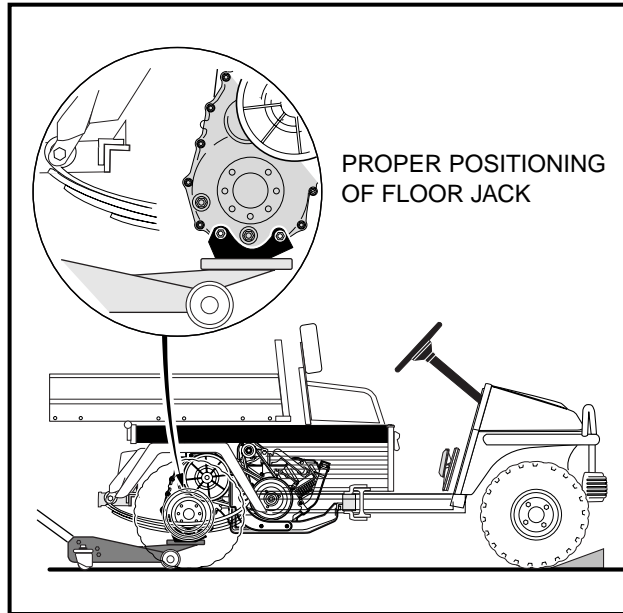
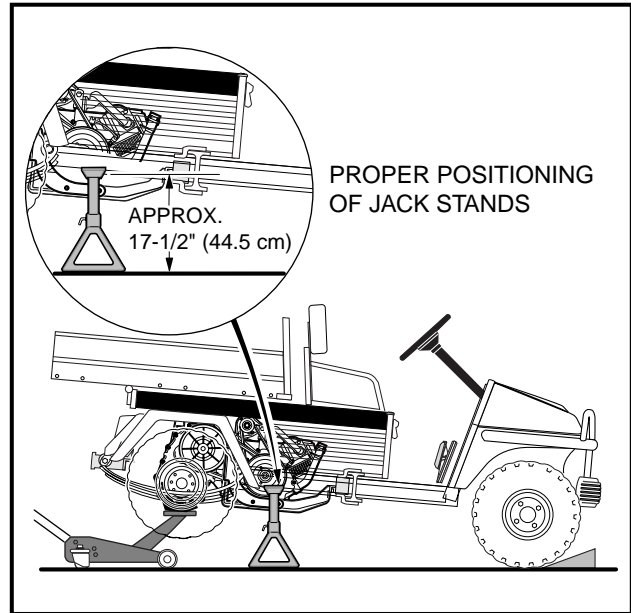

Figure 16-21 Raise Vehicle
Figure 16-22 Position Jack Stands
7. Using a hydraulic jack placed under the transaxle (**Figure 16-21, Page 16-11**), raise the vehicle and place jack stands, set approximately 17-1/2 inches (44.5 cm) in height, under the frame as shown (**Figure 16-22, Page 16-11**).